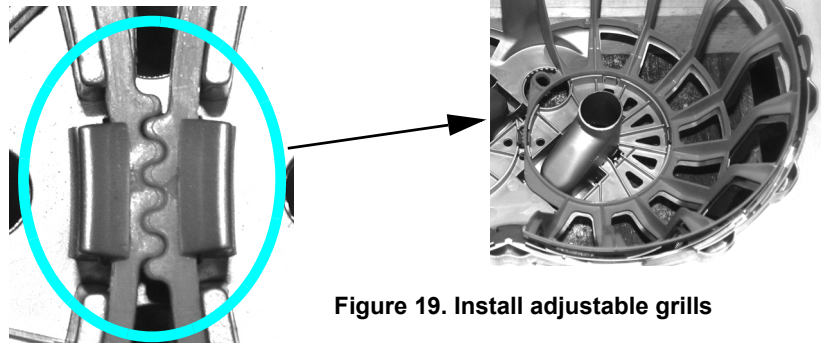

Figure 19. Install adjustable grills
2. Install two adjustable grills. Make sure to line up the arrows on the teeth for proper installation see **Figure 19**.
**Tip:** Prior to installing the adjustable grills align the teeth as shown in Figure 19. Hold the grills together at the teeth and press them through the snaps as shown in Figure 19.